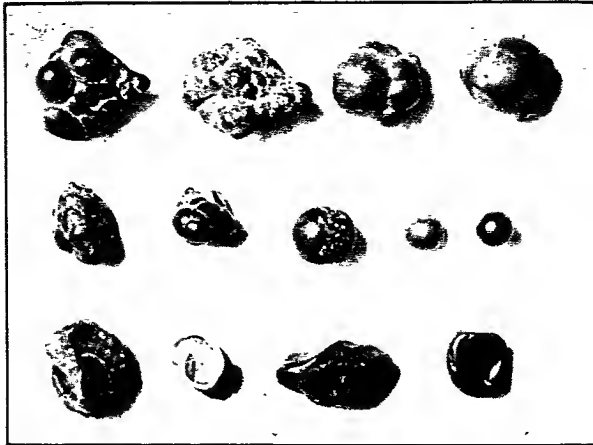

Figure 212. Cassiterite, Wood Tin, Durango, Mexico
*Structure and form:* Most of the tin of commerce is obtained from "stream-tin," which usually consists of more or less rounded, small grains or pebbles, with little structure. "Wood-tin" is in nodules, or of botryoidal forms, figure 212, having fibrous-radiated structure.